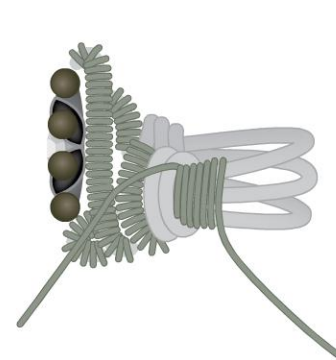

figure 7
- 1 6** Coil eight to ten times around the ring shank, near the wrap made in Step 11 (Figure 7).